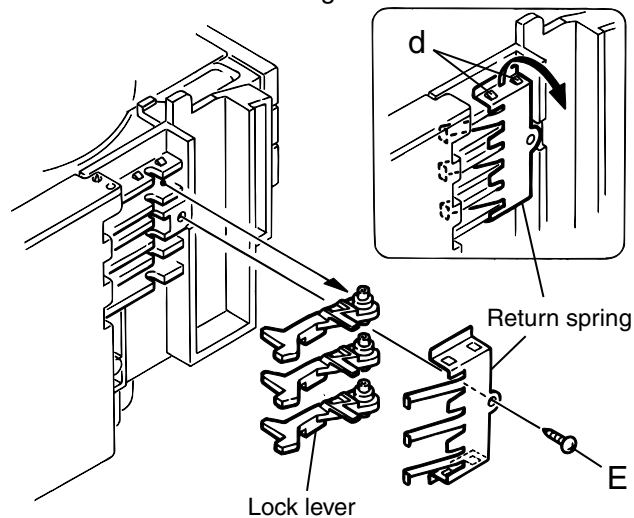

Fig.4
5. From the left side face of the chassis assembly, remove the one screw **E** retaining both of the return spring and lock lever (See Fig. 4).
6. By removing the pawl at the section **d** fixing the return spring, dismount the return spring (See Fig.4).
7. Remove the three lock levers (See Fig.4).